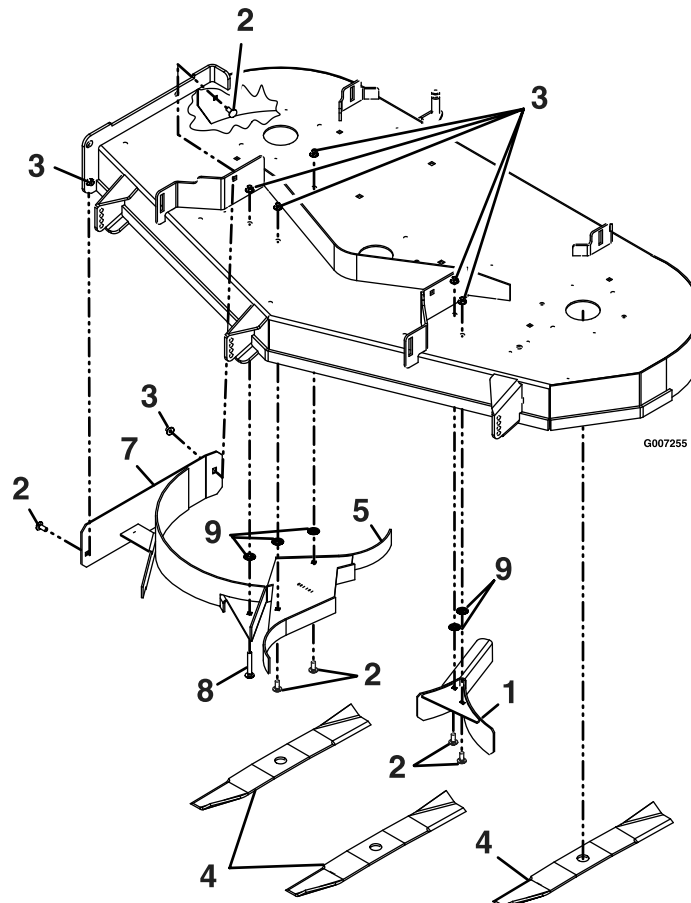

FIGURE 1
*Not shown in Figure 1
(Refer to Figure 1 for all item callouts and hardware)
9. Install right-hand (item 7), center (item 5), and left-hand (item 1) mulch baffle assemblies using hardware indicated as shown in Figure 1.